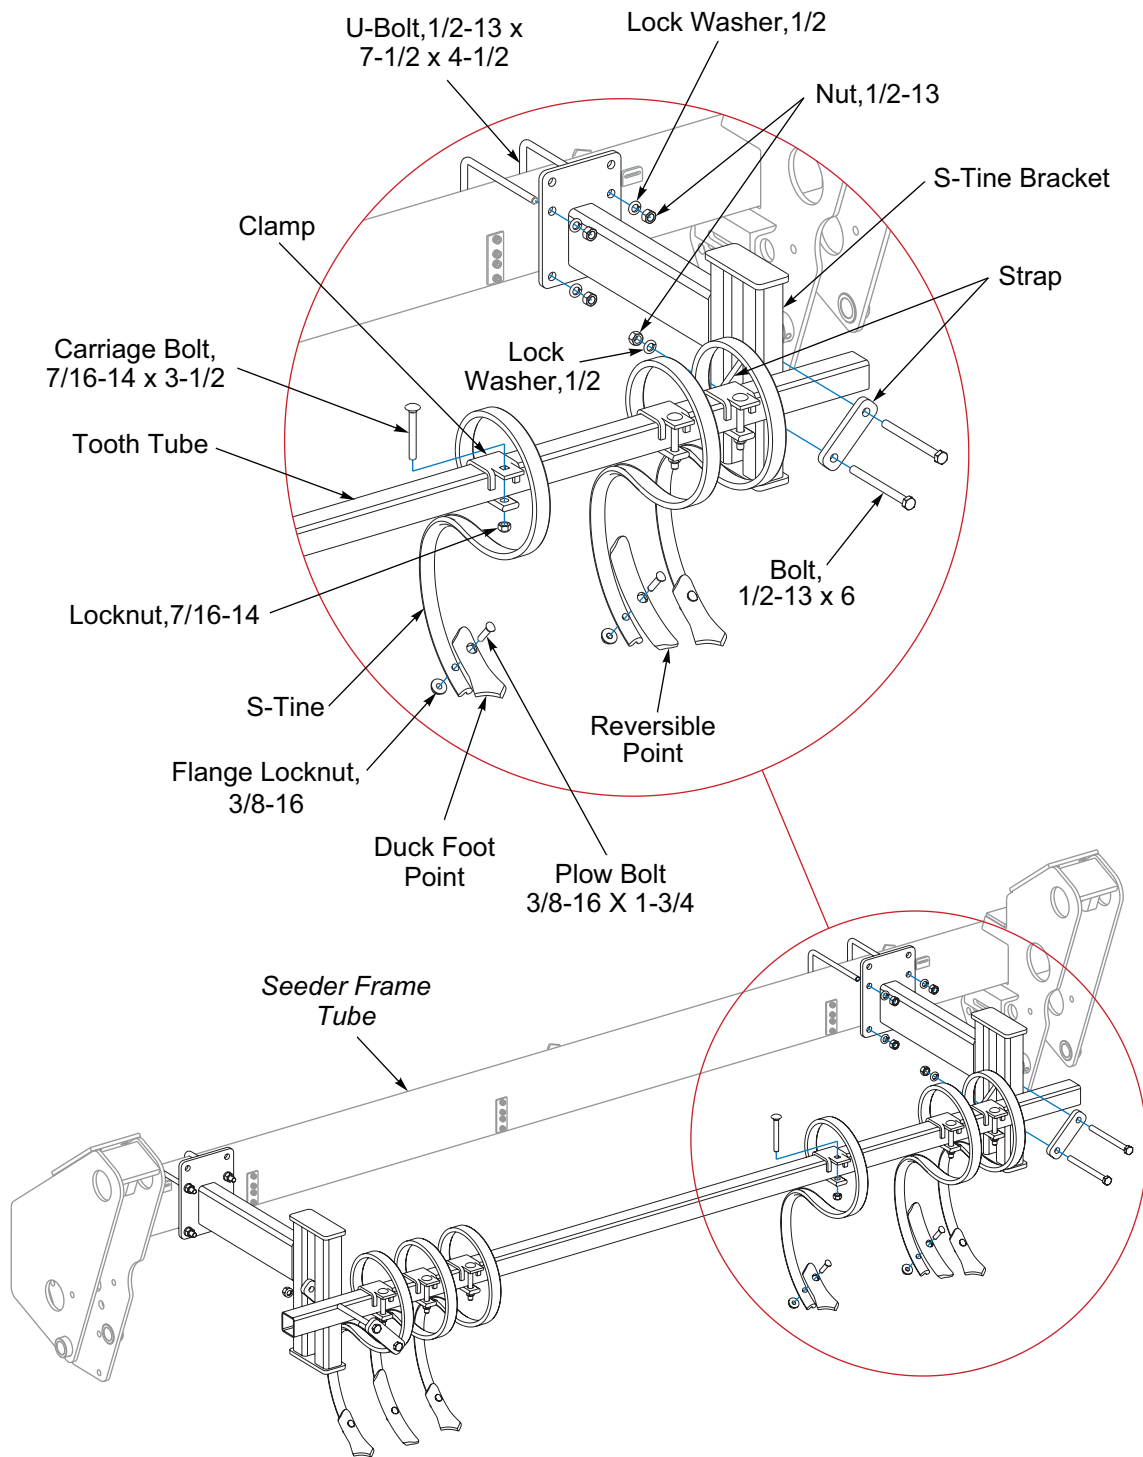
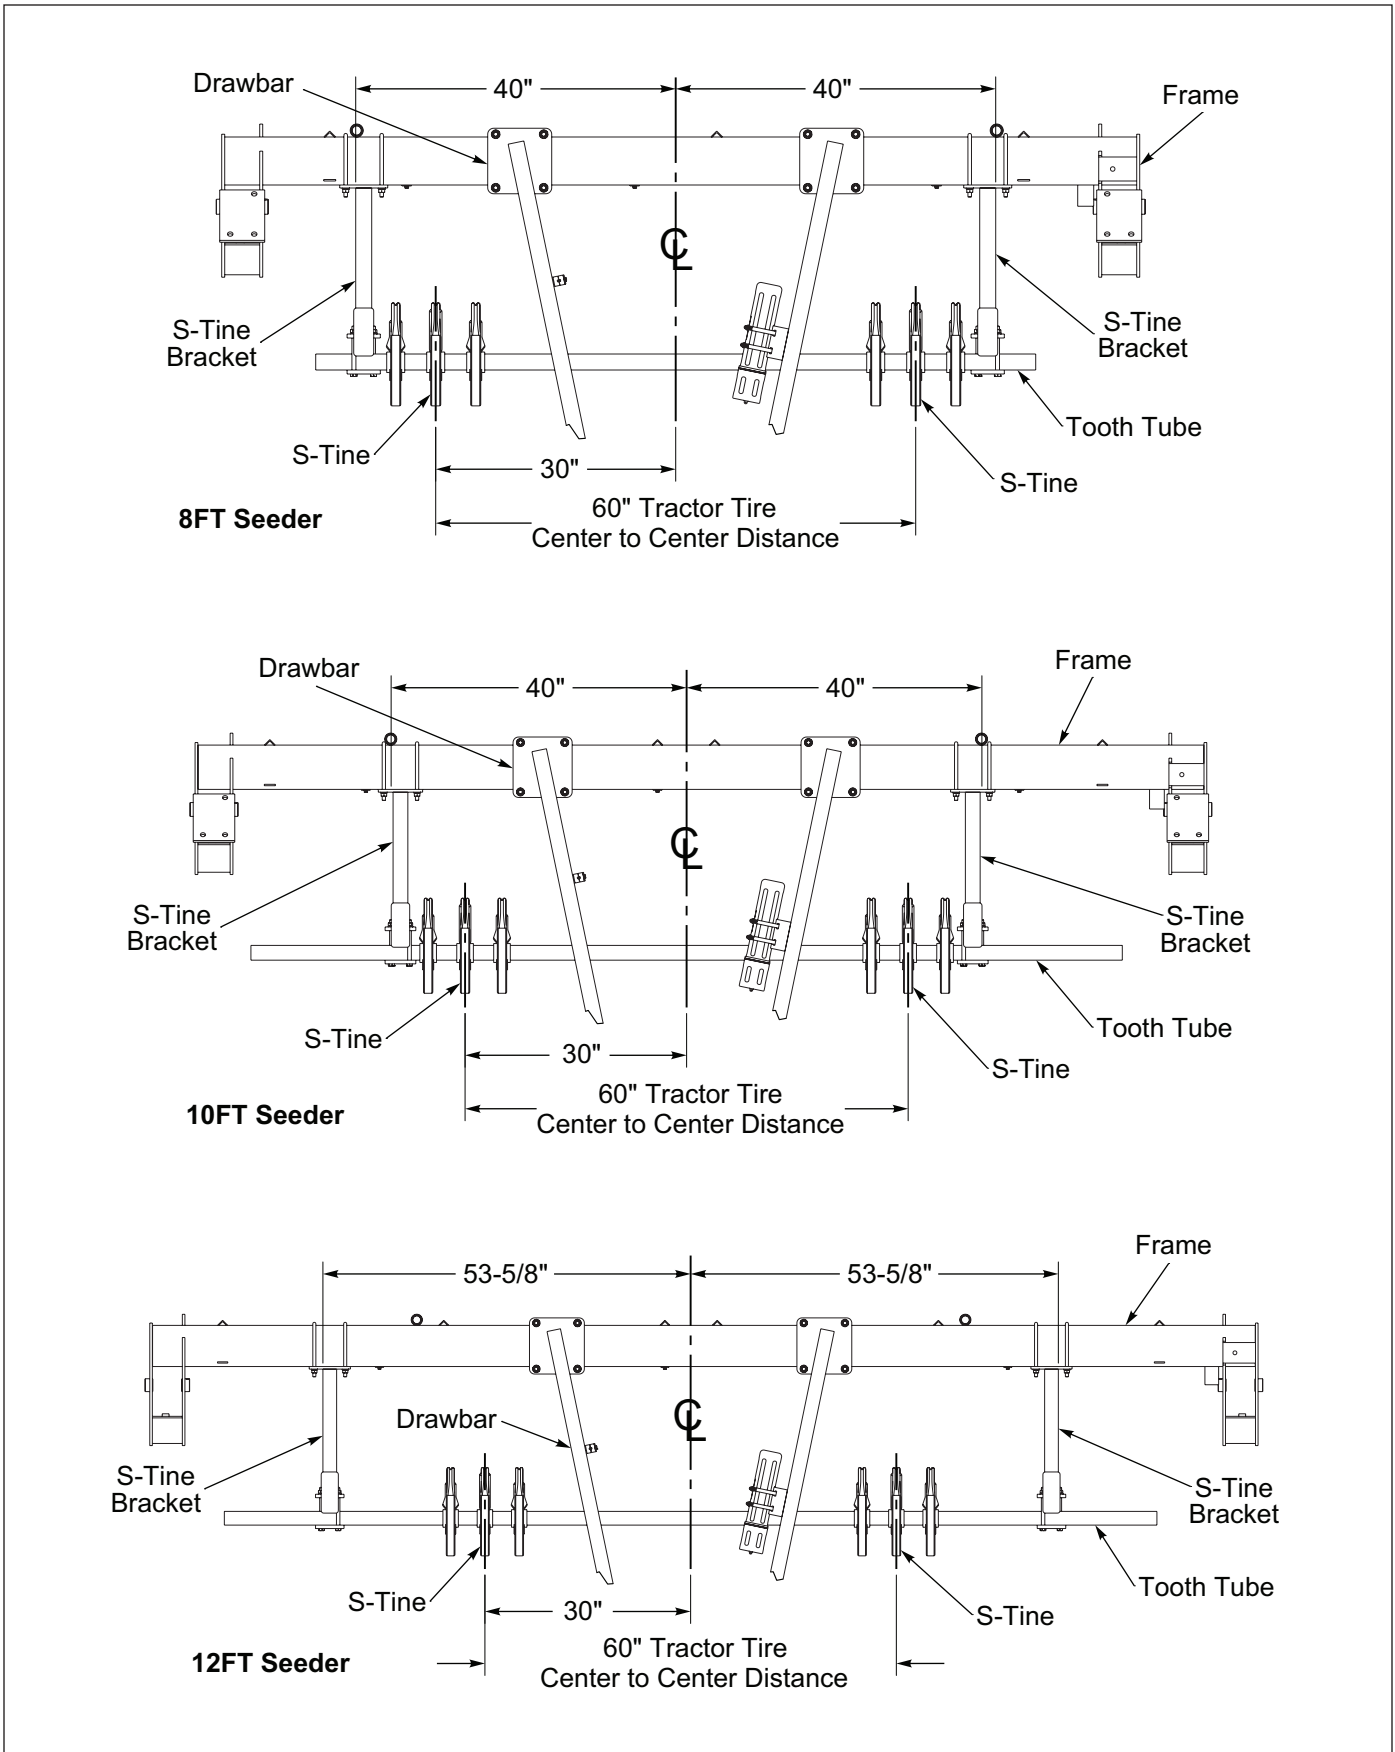

Figure 2-67: S-Tine Track Remover Kit - Optional
Figure 2-68: S-Tine Mounting Dimensions
S-Tine Brackets and S-Tines should be positioned per application. Use **Figure 2-68** only as a reference.
1. Center and position the S-Tine Brackets in relationship with the center of the Drawbar or 3-PT Hitch to the front of the Seeder Frame Tube. **See Figure 2-68.** Secure S-Tine Brackets to the Seeder Frame Tube with 1/2-13 x 7-1/2 x 4-1/2 U-Bolts, Lock Washers and Nuts. **See Figure 2-67.**